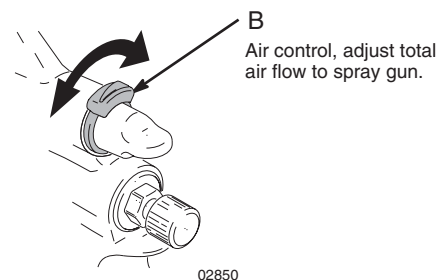

FIG. 5
- 5 Air Control Valve (B) on end of gun, controls both atomizing air and pressure in spray gun cup. Adjust air control valve as needed. Fig. 5.